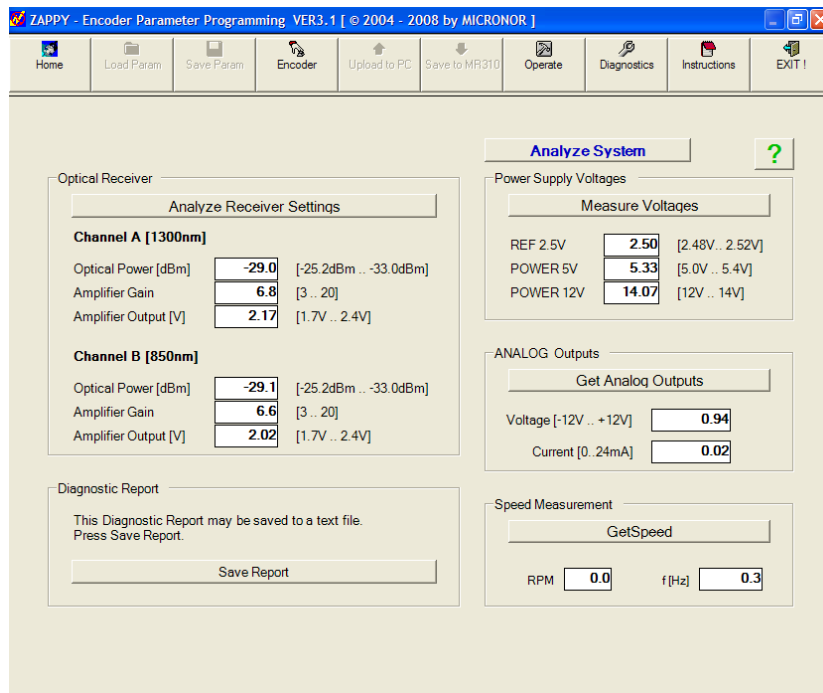

Figure 18. DIAGNOSTICS Screen view via ZAPPY™ Software.
- **STEP 3:** Select [DIAGNOSTICS] to view various monitoring points within the MR310, as shown in Figure 18. Repeatedly clicking on [DIAGNOSTICS] will update the entire set of readings while the individual diagnostic groups (VOLTAGE TEST, OPTICAL SOURCES, SLIT PERIOD MEASUREMENT, ANALOG OUTPUT and INPUT AMPLIFIER) can also be updated individually. Here is a brief explanation of the relevant diagnostic fields to focus on during initial checkout: